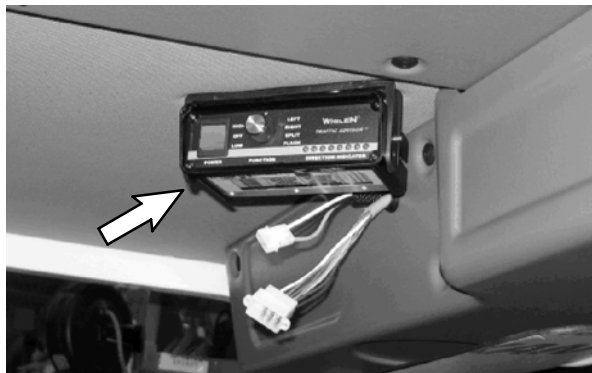

FIG. 4
6. Use two hex screws (10), four flat washers (7), six hex nuts (9)-use as spacers, and two hex nuts (8) to install the controller included with the light assembly (1) to the cab. Refer to Fig. 4.